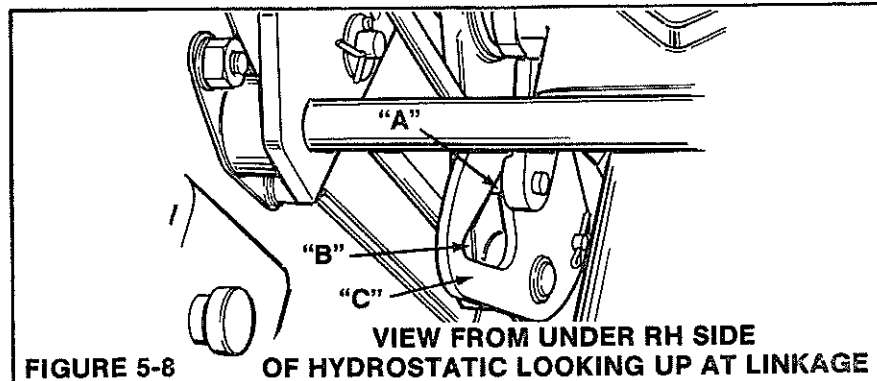

FIGURE 5-8
The brake system on these tractors has a "Neutral" interlock built into it. When the brake pedal is depressed, pin "A" Figure 5-8 moves into slot "B" of lock plate "C" moving the transmission controls into the "Neutral" position. If the parking brakes are locked the transmission is also locked in "Neutral".
2. Depress brake pedal until pin "A" Figure 5-8 of control just enters slot "B" of lock plate. Lock the brake pedal in this position.